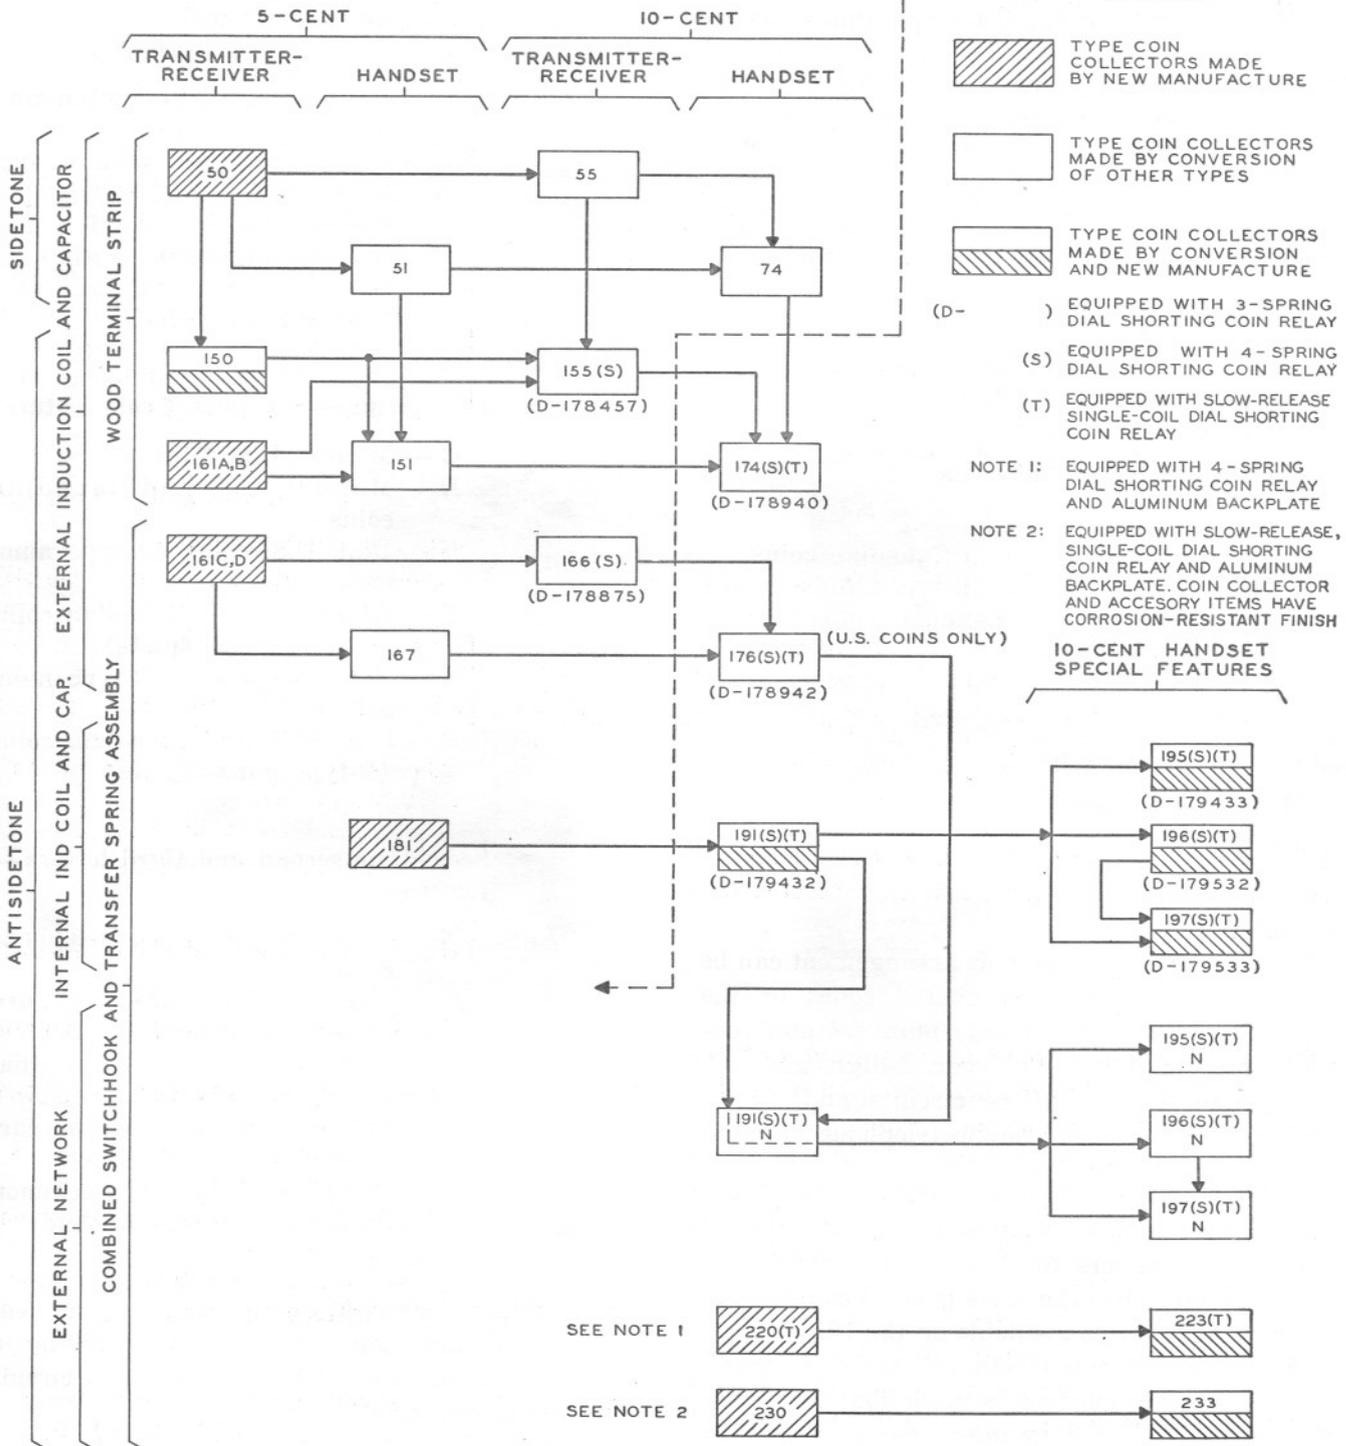

Fig. 16—Historical Development of Prepay Coin Collectors
6.03 The historical development of prepay coin collectors and their basic features are shown in Fig. 16.